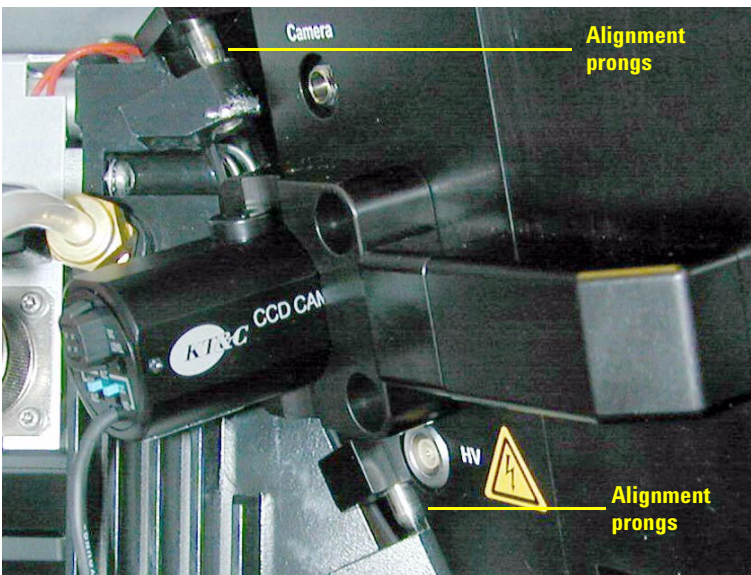

Figure 114 Slide the prongs into the hinge
- 14** For ease of installation, remove the side cover door. This will also prevent accidental damage to the CCD camera. Align the interface Flange prongs with the hinge on the Inlet Flange. See Figure 114. The CCD camera should be almost touching the instrument cabinet.